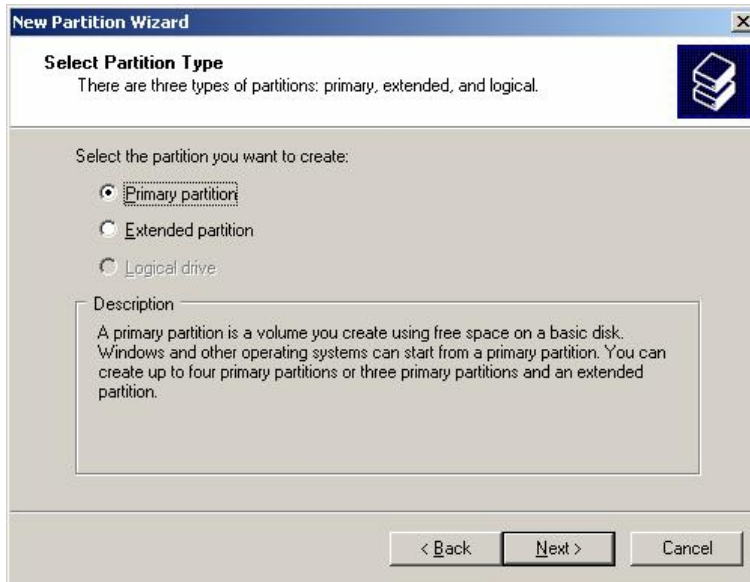

Figure 3.5 New Partition Wizard Panel
2. The Select Partition Type panel appears first (see Figure 3.5). Select the desired type of partition, and then select **Next**.